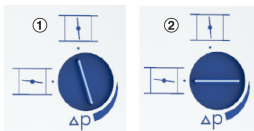

Fig. 2: Display of the damper blade position
- 5 Display damper blade position ⇒ Fig. 2